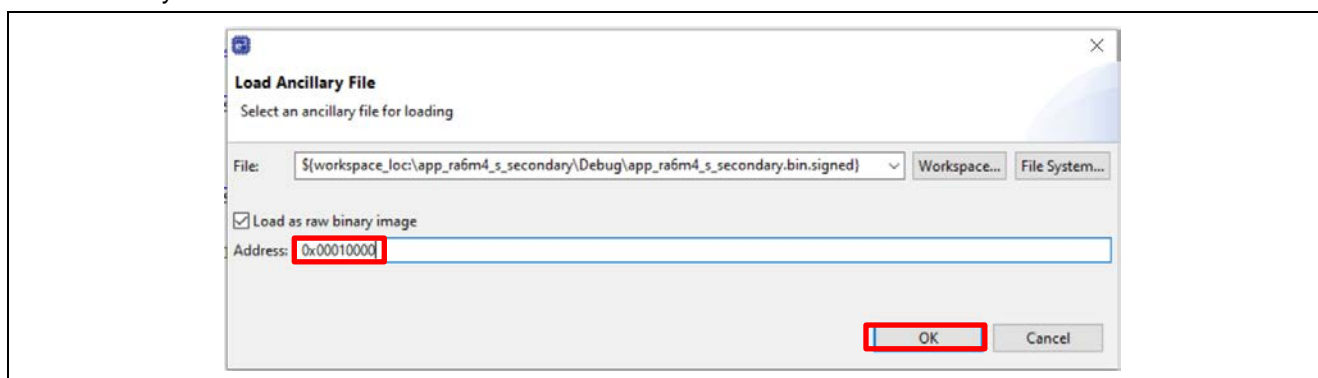

Figure 19. Load the Secondary Secure Application Image for Overwrite Update Mode
2. Load the secure new application images to the Secondary slot region using the Ancillary loading capability  from the top of the e² studio toolbar in a similar way as Figure 19 except use address 0x18000.